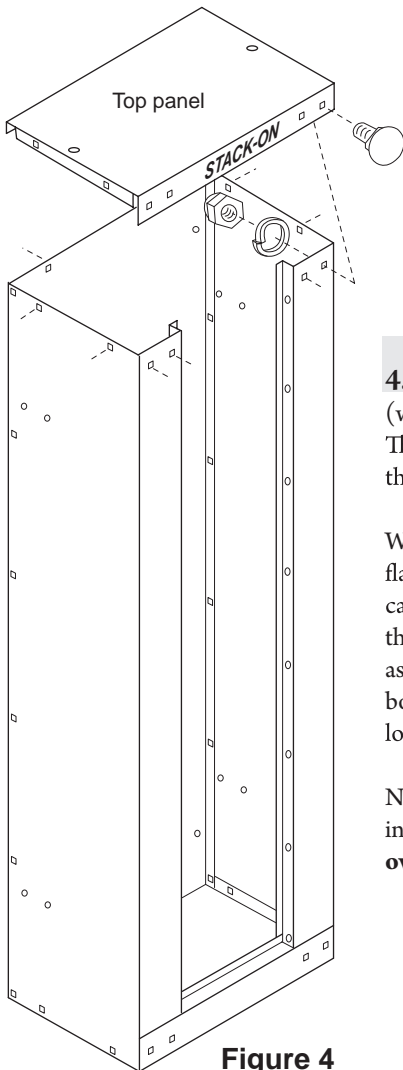

**Figure 5**
Align the door hinge holes with the cabinet holes. Assemble with (8) machine screws and locking nuts. (See figure 5)